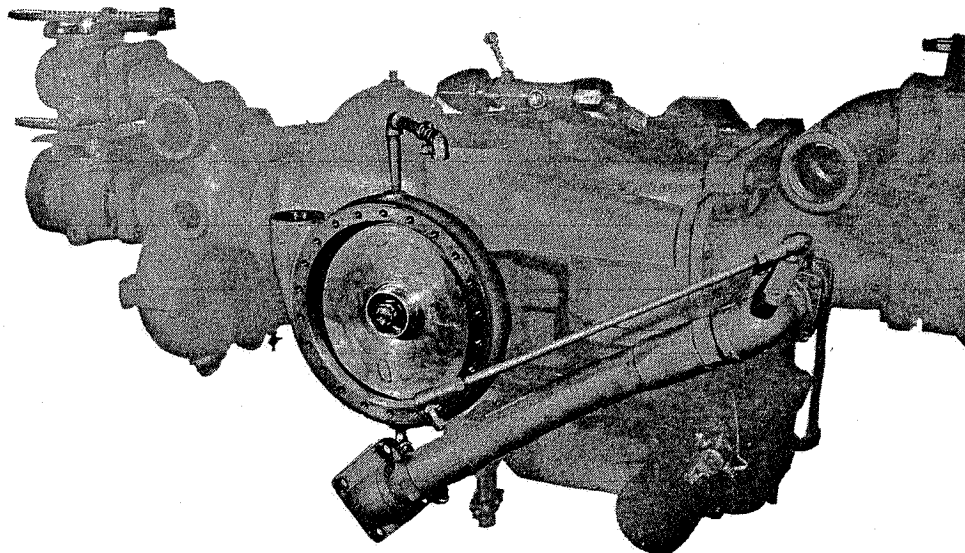

Fig. 1 CSH Pump with High Pressure-Stage Head Removed
- Figure 1 CSH Pump with High Pressure-Stage Head Removed
8. Remove cap screws (L19) and copper washers (L25), and carefully pull off pump head (L7). Discard gasket (L5). (See Fig. 1.)
9. (See Fig. 1.) Remove cotter pin (S19). Unscrew impeller nut (S18), and pull impeller (S21) from end of shaft (S11). Do not lose impeller spacer (S25) which may come off with impeller.